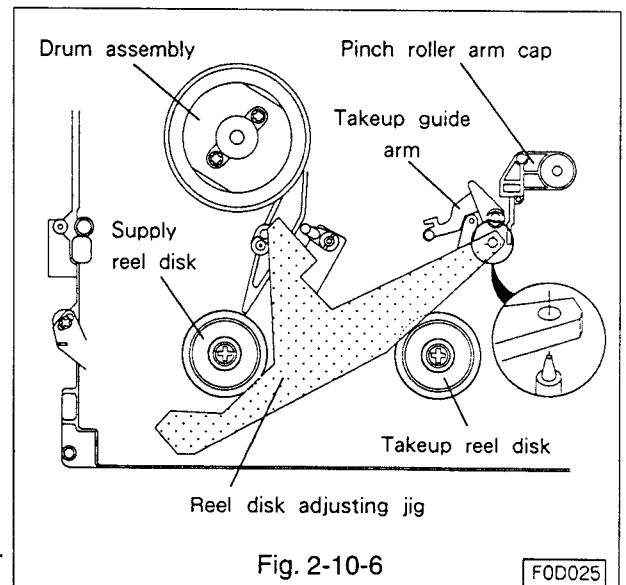
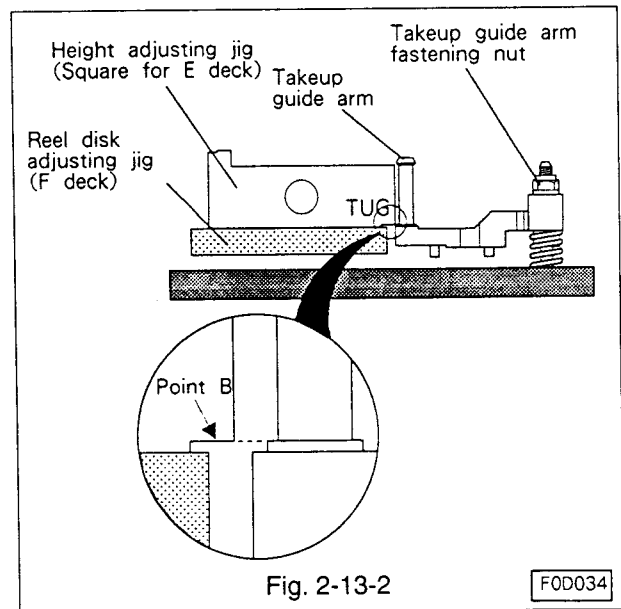

Fig. 2-10-6
Fig. 2-13-2
- J. Place the reel disk adjusting jig(Part Number 859C342O20) in the reference position on the main plate.(Refer to Fig. 2-10-6.)
- E. Place the reel disk adjusting jig (Part Number 859C342O20) in the reference position on the main plate. (Refer to Fig. 2-10-6.)
- B. Place the reel disk adjusting jig(for the F deck) in the reference position on the main plate(Refer to Fig. 2-10-6). Tighten the takeup guide arm fastening nut so that the lower flange of the takeup guide arm is level with point B of the height adjusting jig(for the E deck). (Refer to Fig. 2-13-2.)